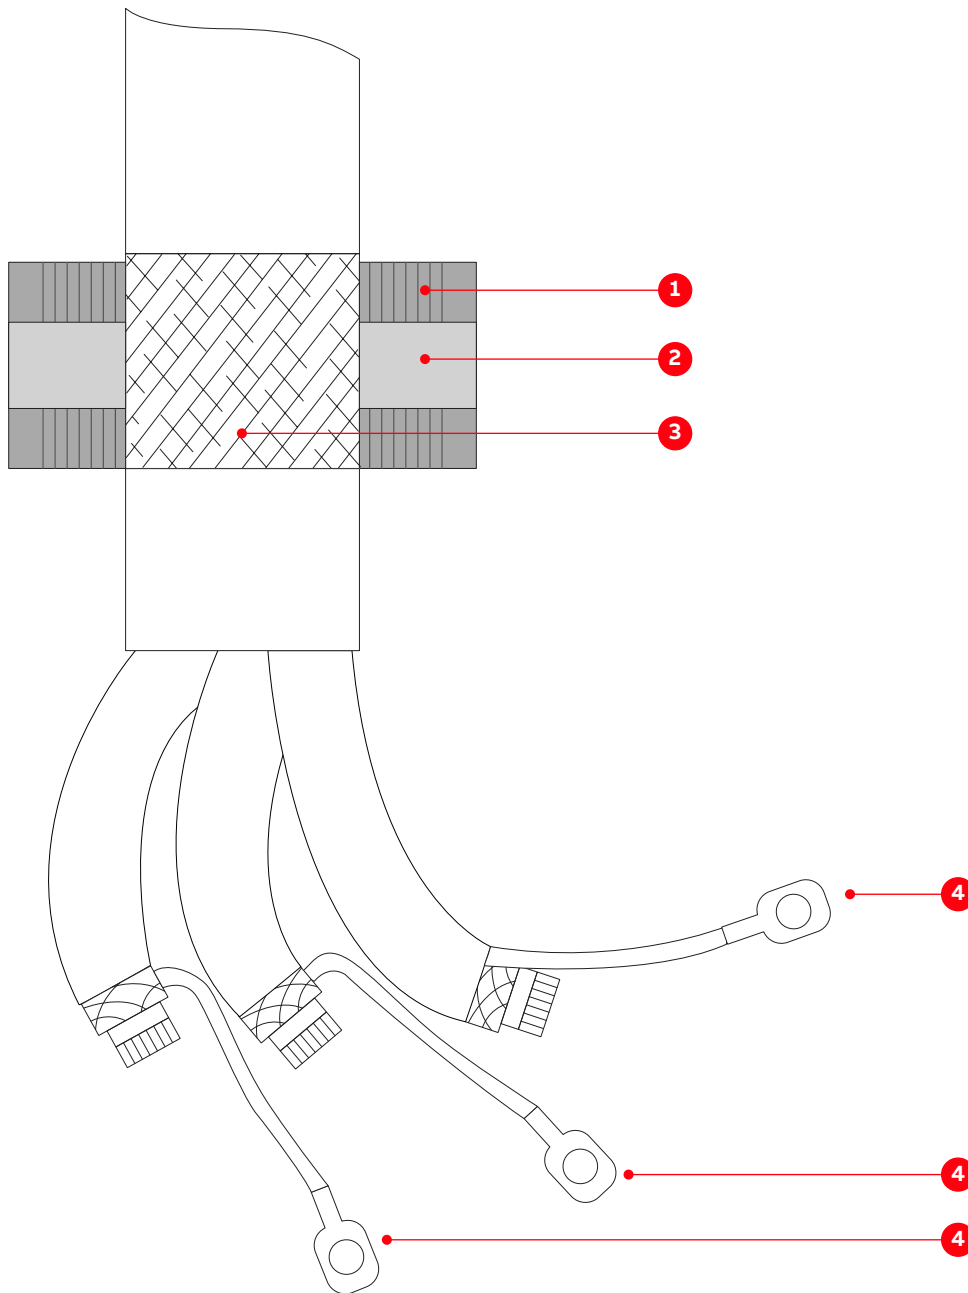

Figure 7-20: Preparing control cables for sealing modules
2. Prepare the cables with an outer cable screen for EMC bonding with the metal enclosure of the cabinet as illustrated in Fig. 7-20.